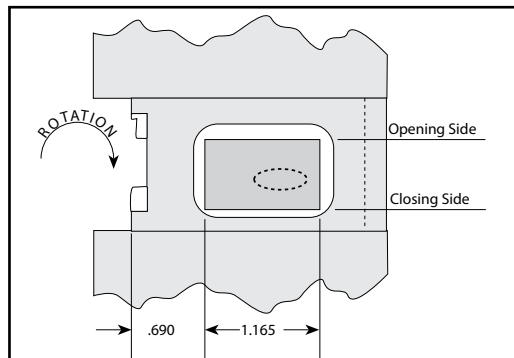

Figure 7
- S&S recommends grinding hole to maximum timing specifications. If there is any doubt and timing falls within specs, leave breather opening alone. **See Figure 7** for breather timing specifications.
- G. Note location of hole in gear as opposed to hole in crankcases. **See Figure 7, previous page**. Grind hole in cases so location matches holes in gear with respect to where toothed portion of gear hits cases. **Picture 12, below**, shows finished breather gear opening.